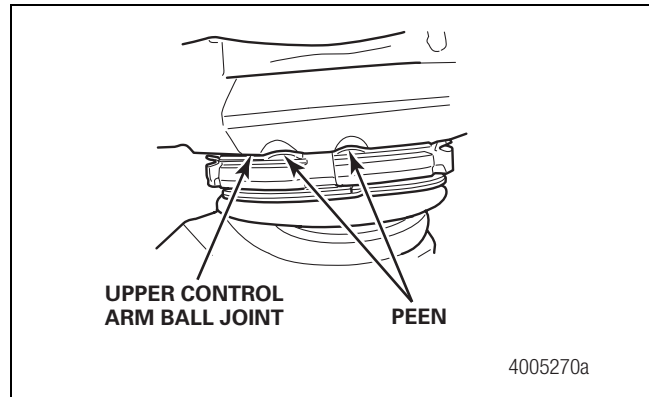
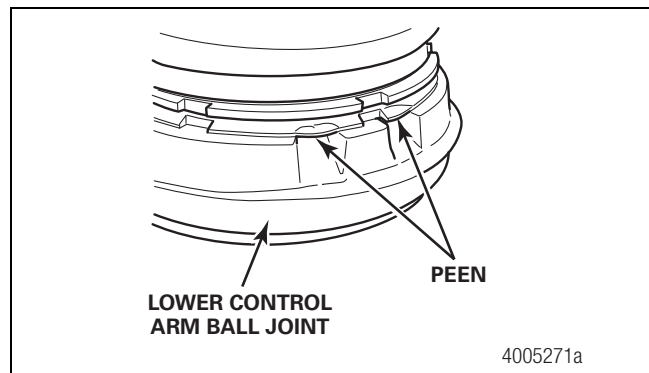

Figure 7.6
Figure 7.7
6. Peen the ball joint lip into the adjacent recess on the control arm. Figure 7.6 and Figure 7.7.